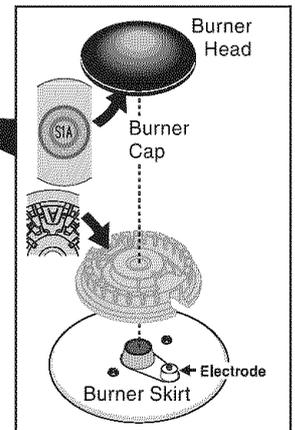

Fig. 5
- Replace right rear Burner Head & Cap onto cooktop. Match the letter for the right-rear burner located inside of Burner Cap with the letter located inside Burner Head (only the right-rear position is marked with letter A - See Fig. 5). Carefully align the Electrode into slot of Simmer Burner Head (Fig. 7).